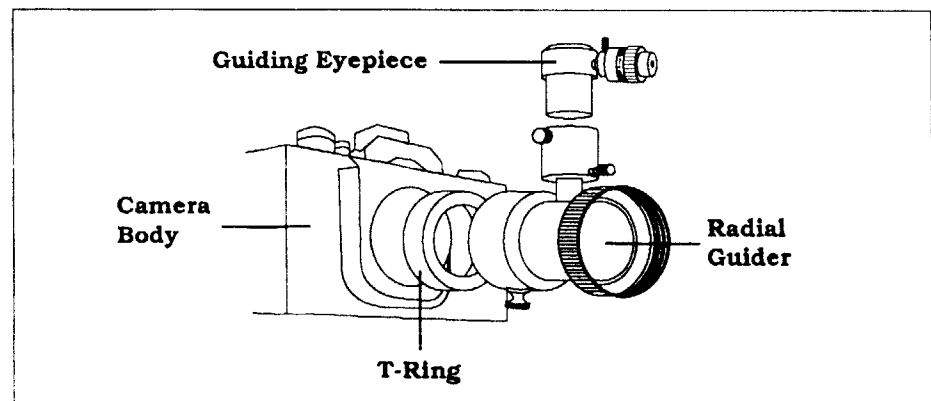

Figure 3
3. Mount your camera body to the T-Ring the way you would to any other lens (see figure 3). The T-Ring has a red dot to indicate the correct coupling point with the camera body.